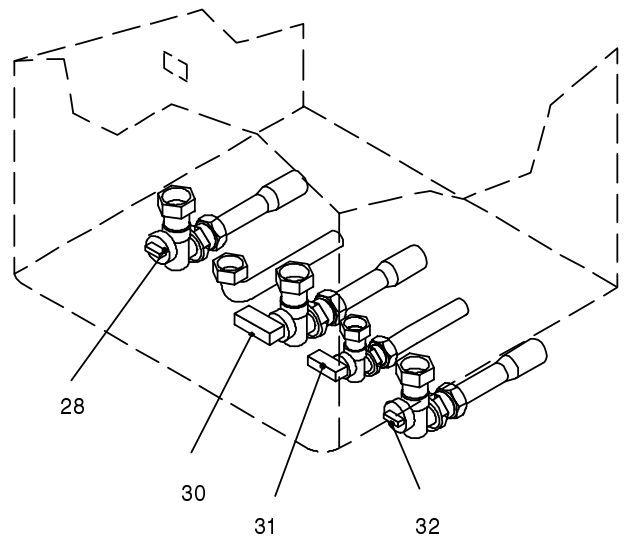

fig. 6.3
- 1 Check that the gas cock (30 in fig. 6.3) fitted under the boiler is turned off and the appliance is not live.
- 1 Turn off the dcw inlet cock (31 in fig. 6.3) and turn on the "utilities" cocks.
- 1 Close the c.h. cocks (28, 32 in fig. 6.3).